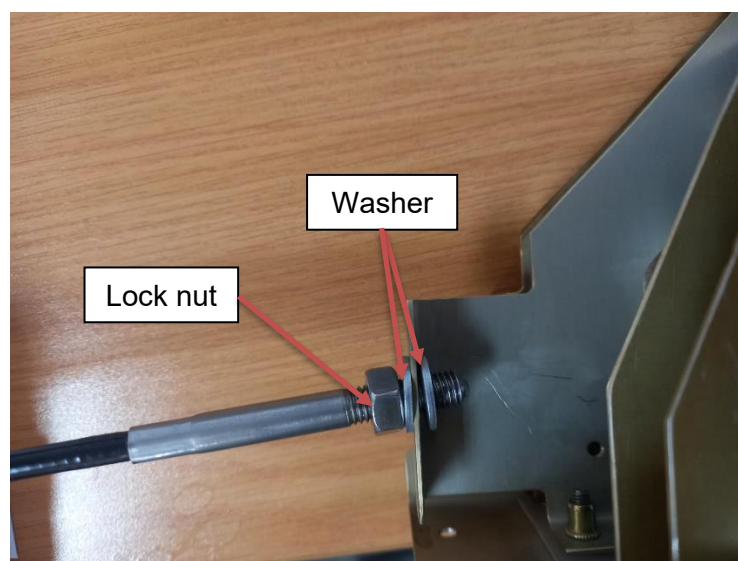

Figure 24
Step 5: Connect the sheaths threaded section to the right hand Throttle Quadrant Plate. Refer to Figure 24.